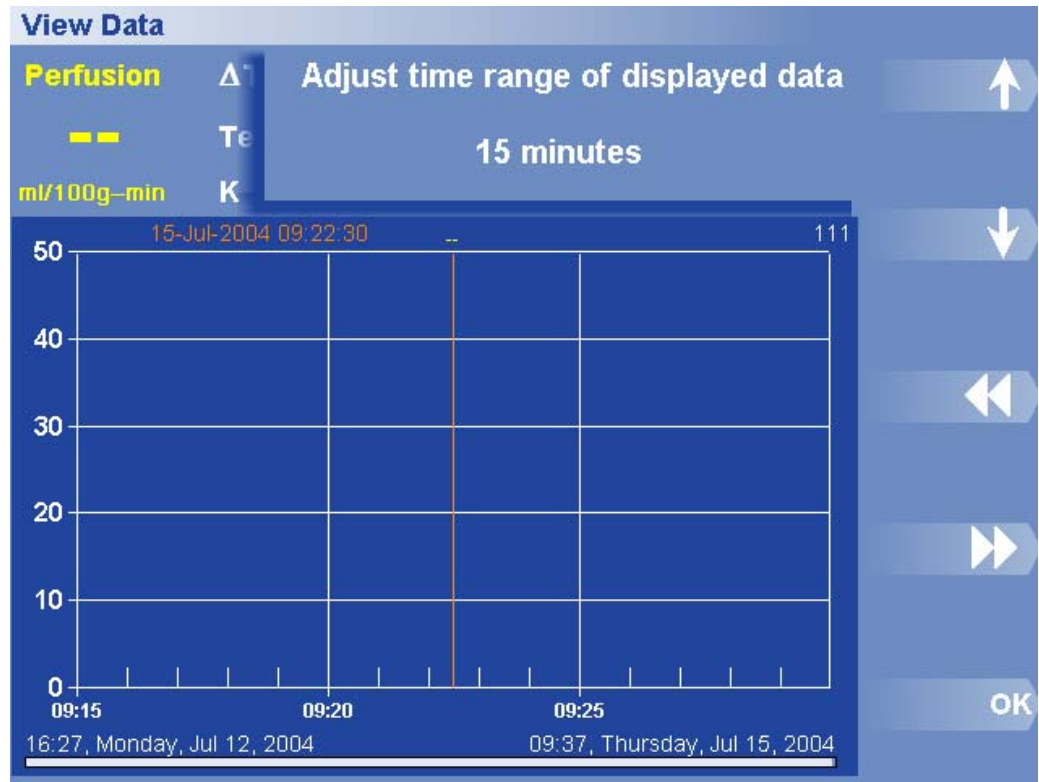

Figure 33. Set Time Range Dialog Box and Menu
2. Press Set Time Range. The Time Range dialog box appears (Figure 33).